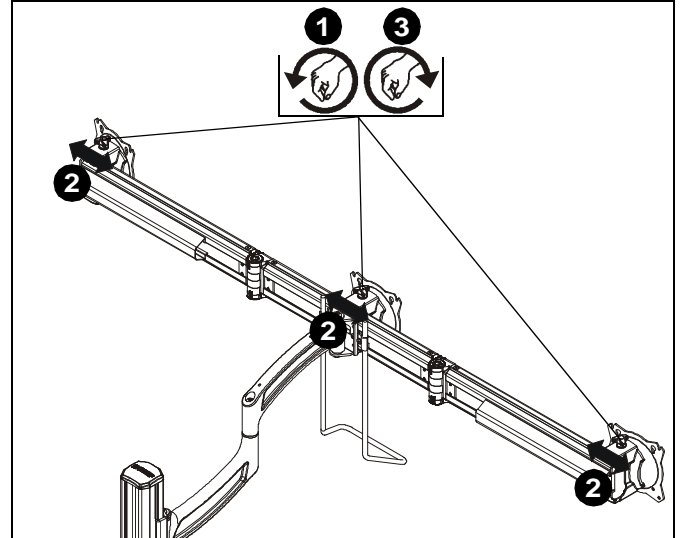

Figure 22
1. Loosen knob on top of faceplate assembly until faceplate can slide freely along array. (See Figure 22)
2. Adjust lateral position as desired. (See Figure 22)
3. Tighten knob to secure lateral position. (See Figure 22)